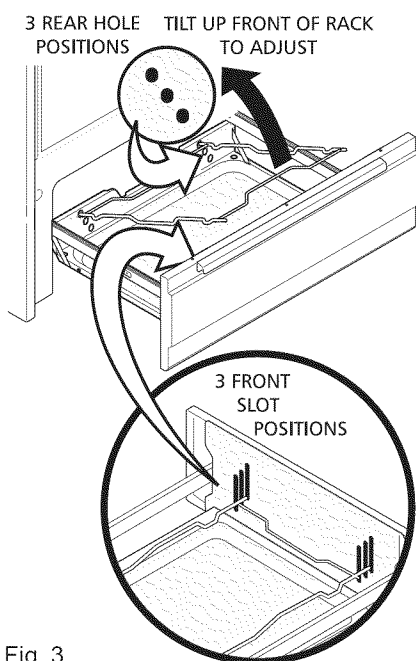

Fig. 3
4. Position rack by tilting front of rack up and pulling rack out from locating holes in rear of broiler drawer. Reposition back of rack in the desired locating holes and allow front of rack to slide down into the corresponding slots in front of broiler drawer (Fig. 3).
5. Grasp oven door firmly on both sides and slide door up and off hinges at the same angle. (See Fig. 3)
2. Hold door at the sides near the top while resting the lower front of door on your knee. Insert the door channels at the bottom of door over the door hinges, (See Fig. 3).